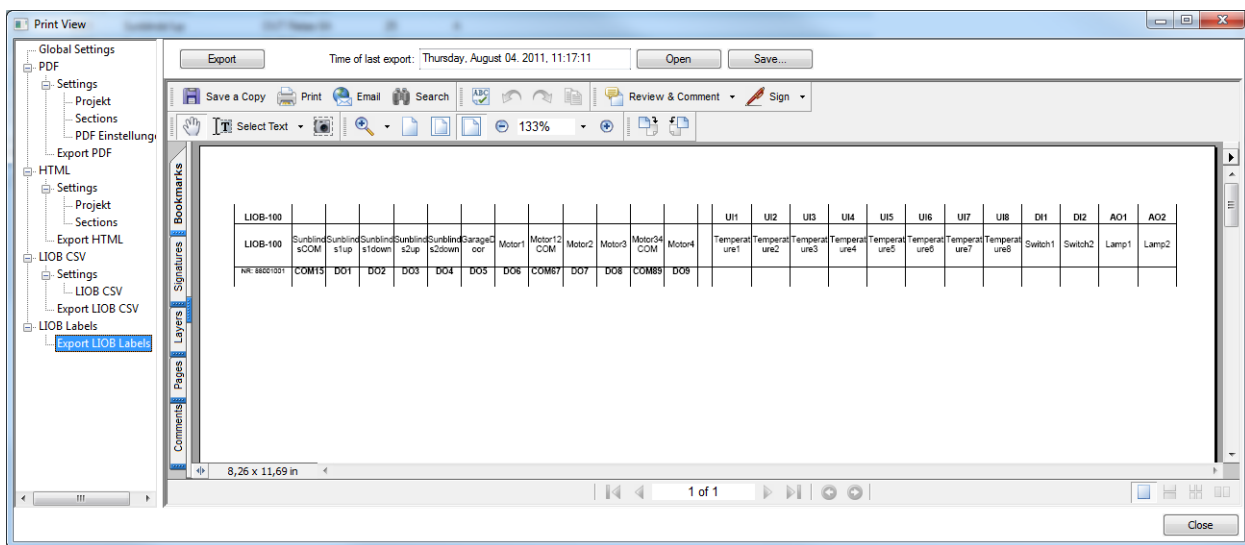

Figure 80: Print View
3. This opens the Print View dialog as shown in Figure 80. Select **Export LIOB Labels** on the left side.